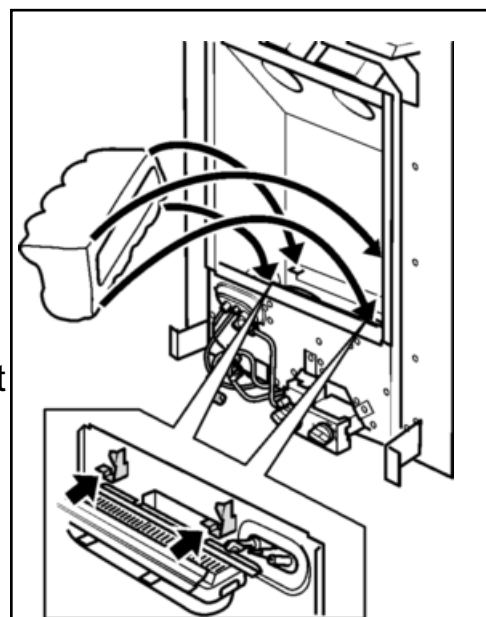

Figure 20. Ceramic coal base location
**1.** Fit the ceramic coal into the fire above the burner. The front of the ceramic coal should locate on the horizontal faces but behind the vertical faces of the two location brackets positioned at the front of the burner module. See figure 20.